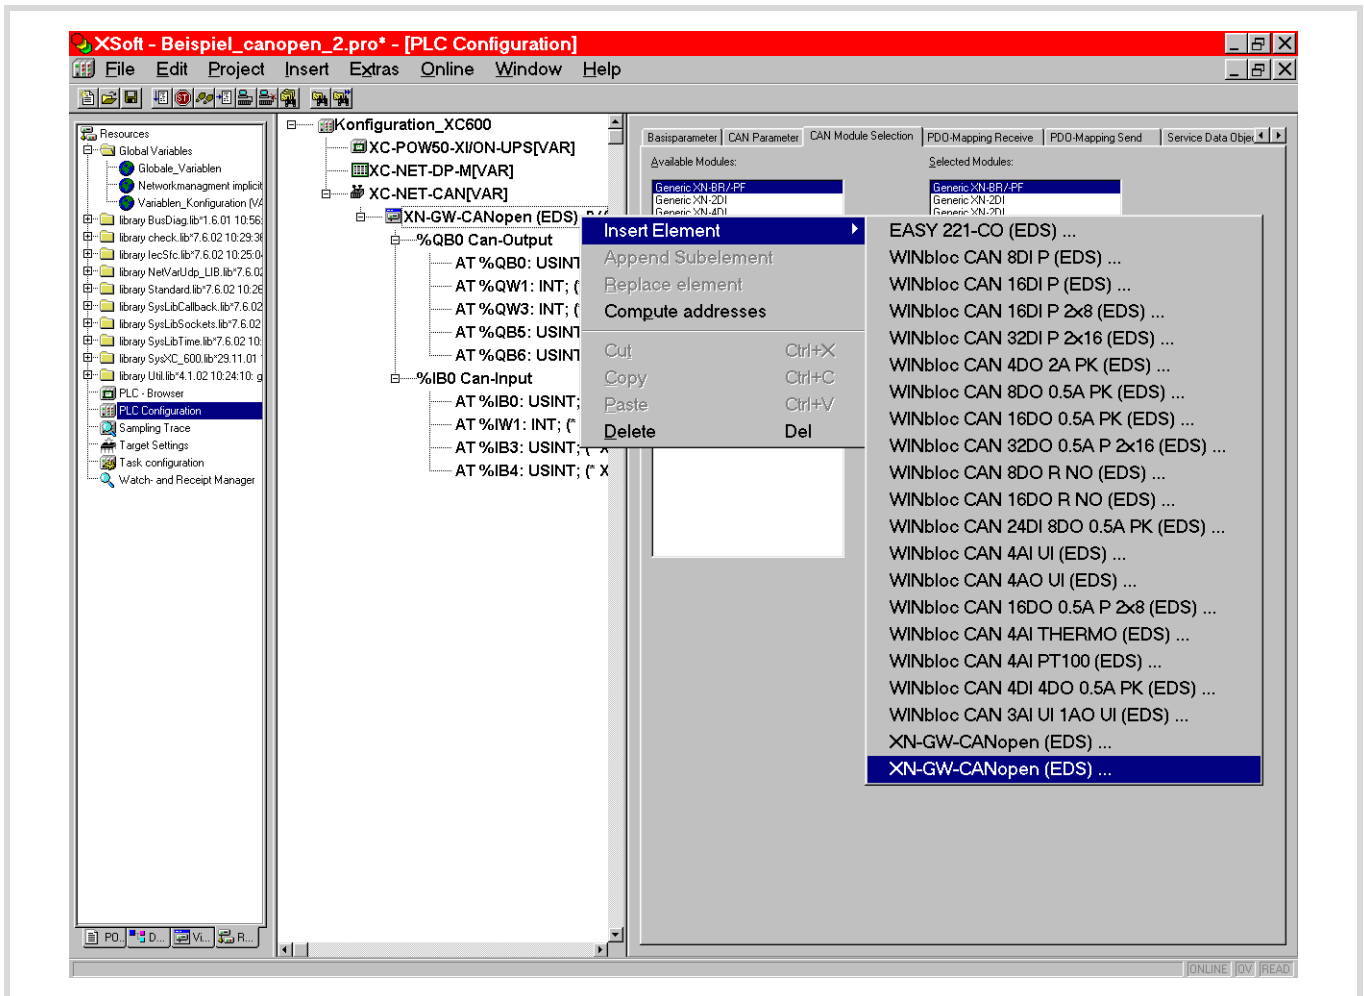

Figure 53: CANopen module selection
- ▶ Select "Append subelement" and select the "XN-GW-CANopen" module (→ fig. 53).